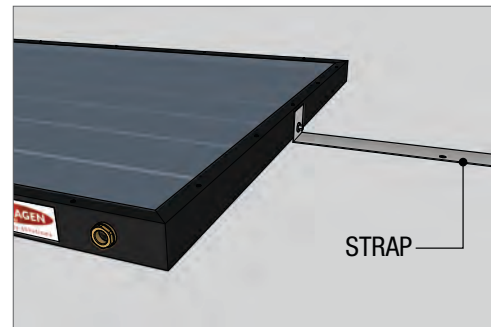

Fig 1
3. Secure the TOP straps to the top horizontal section of the collector with the screws supplied (Fig 1). NOTE. Do not use longer screws than those supplied or the copper header pipe in the collector may be pierced, causing leaks